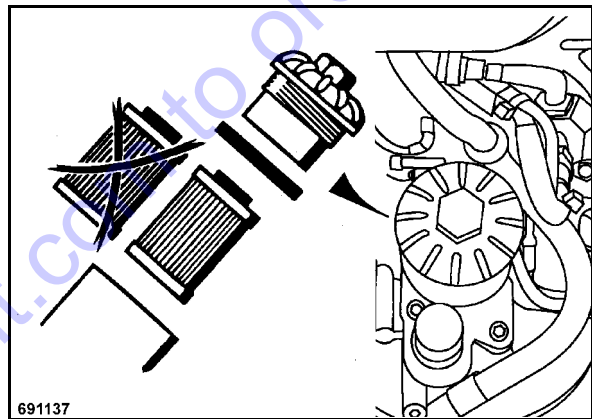

Fig. 65
- Unscrew the cover (Fig. 65).